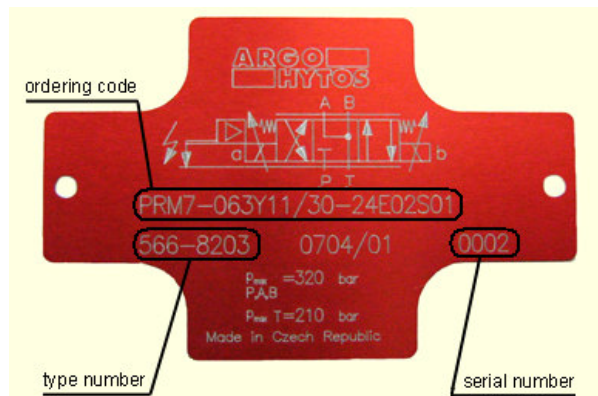

Figure 24. An example of a name plate of a proportional directional control valve
- In case of loss of original configuration data, it is possible to receive these data back from the producer if you send the type number and the serial number of the valve. The type number and the serial number are placed on the valve nameplate (see Figure 24).